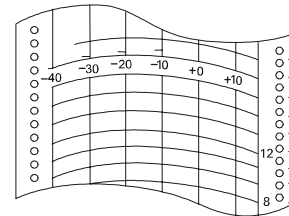

Fig. 1
This unit is provided a nickel-metal-hydride battery for the power failure warning device. The battery is located in the battery mounting plate inside the top cover. (Fig. 1)
1. The information on the temperature recording paper is shown in Fig. 1.